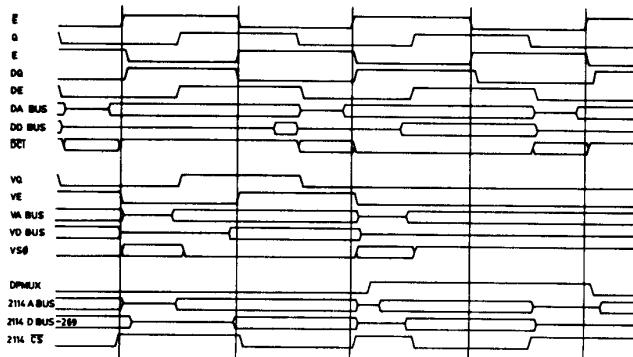

FIGURE 3-2 DUAL PORT RAM TIMING
- The Data Processor runs in quadrature with (one quarter clock cycle ahead of) the Video Processor. In other words, E is inverted for use as DQ, and Q becomes DE. Refer to Timing Diagram, Figure 3-2.